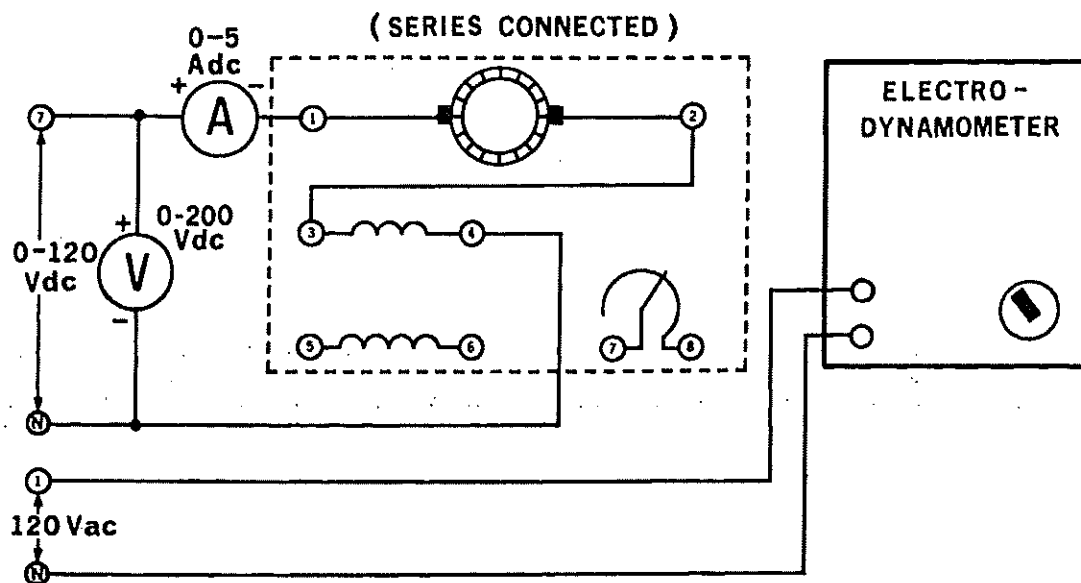

Figure 5-1.
- 1. Using your Power Supply, DC Motor/Generator, DC Voltmeter/Ammeter and Electrodynamicometer, connect the circuit shown in Figure 5-1.